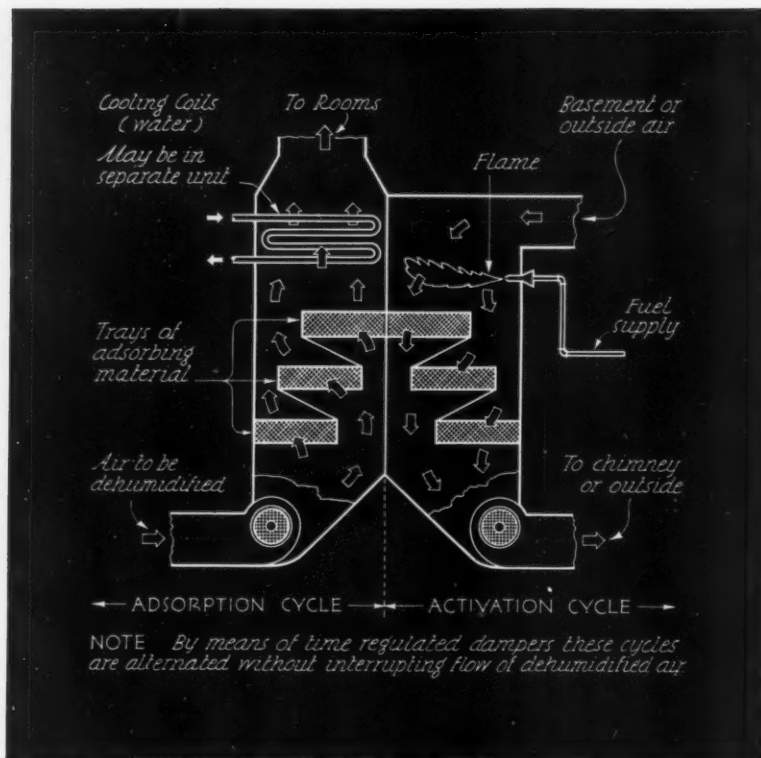

FIG. 1
1. Adsorption Method. In equipment of the adsorption type air-borne moisture is absorbed by a granular material which is revived by heat and then cooled. There are two cells or compartments, each of which is alternately adsorbing moisture and then being revived. See Fig. 1. These machines are adapted to locations where cold water is available for cooling service and where climatic conditions require removal of humidity without a large amount of cooling.